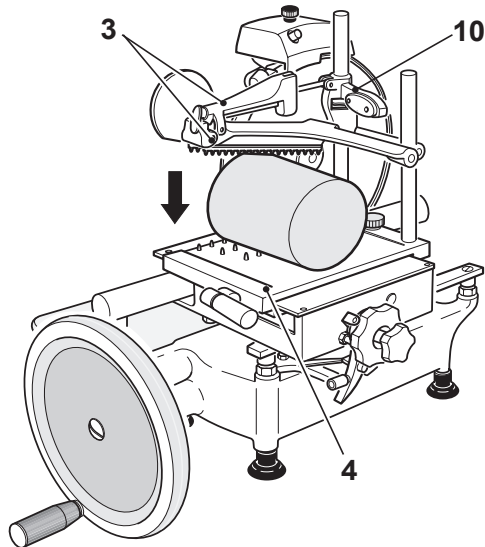

Figure 10-1
- Position the food product to be sliced on the product holder (4).
- Use the pusher vertical slide lever (10) to adjust the pusher (3) to hold product in place (Figure 10-1).